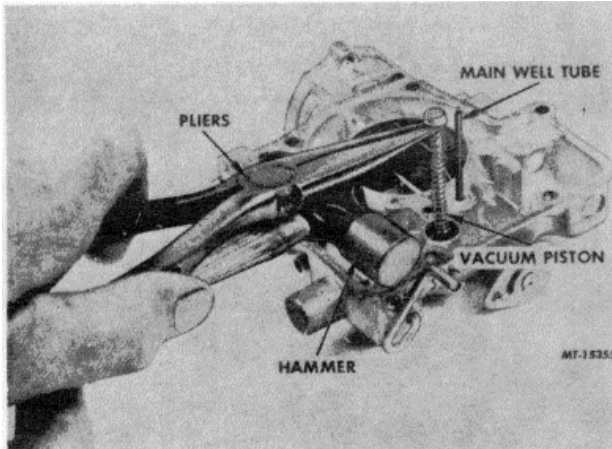

FIG. 13. Removing the Vacuum Piston Assembly
8. With a suitable puller or long nosed pliers and support, remove the vacuum piston assembly (Figure 13).